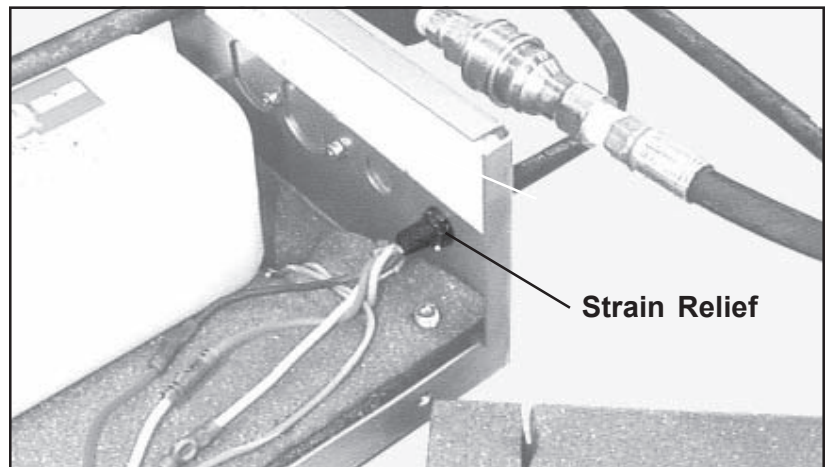

Figure 72. Strain Relief
7. With a pliers, hold down the tab on the strain relief and pull the strain relief out of the power pack (Figure 72).